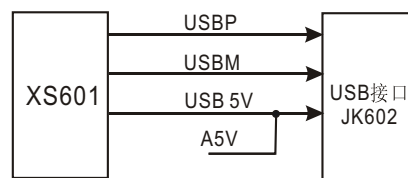

Figure 3.2.13.1 USBjack circuit block diagram
1. USB jack circuit block diagram is shown in the figure 3.2.13.1: